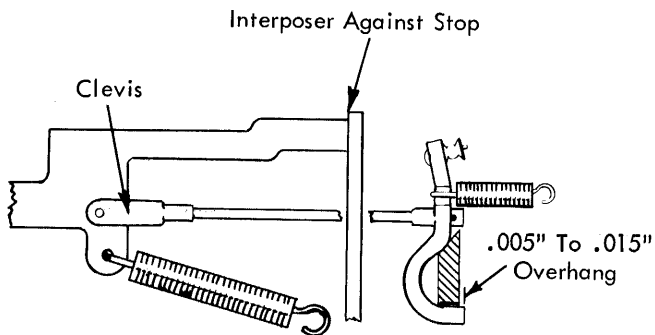

FIGURE 20. Tilt and Positive Latch Links
- b. With the machine at rest adjust the tilt and positive latch links so that their latches will overlap the latch bail with .005" to .015" overhang (Fig. 20).